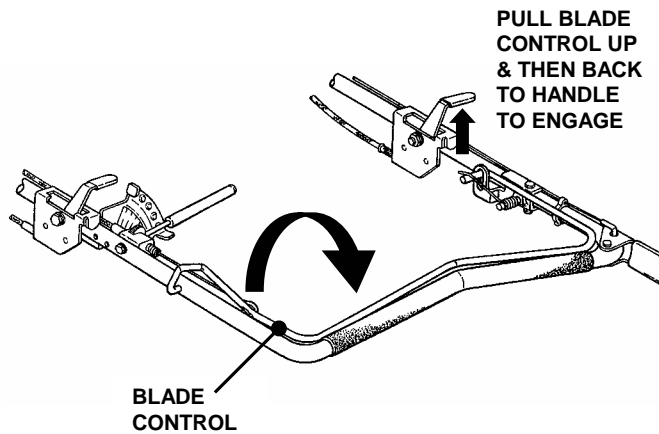

FIGURE 2.4
1. To engage blade, Lift up on the blade control. While lifting up, pull blade control back against handle. Blade will engage (rotate). See Figure 2.4.